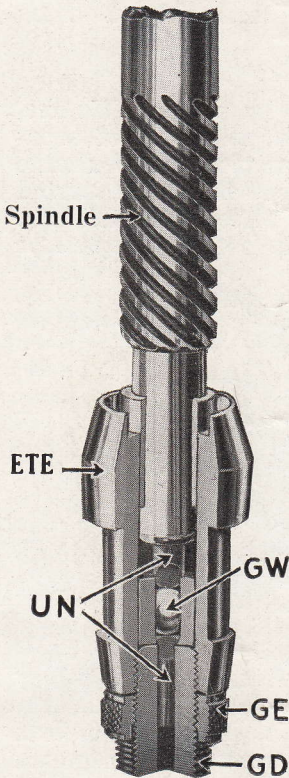

Fig. 10
As shown in Fig. 10, there are two steel points in the Beatrice Cream Separator. One of these is in the top of the adjusting screw (GD) and the other is in the lower end of the bowl spindle. The point in the adjusting screw is easily driven out by a small punch or wire nail inserted in the hole through the bottom of the screw. The points are flattened on two sides. To remove the point in the end of the bowl spindle, take the Spanner Wrench (AFS) which has a hole in the side that the point will fit into. Give the wrench a few turns and the point will be released from the end of the spindle. Before replacing the point fill the hole in the end of spindle with heavy machine oil. This prevents the points from setting. If you should accidentally break off the point in the end of the spindle, heat the end of the spindle over the blaze of a lamp and the point will come out.